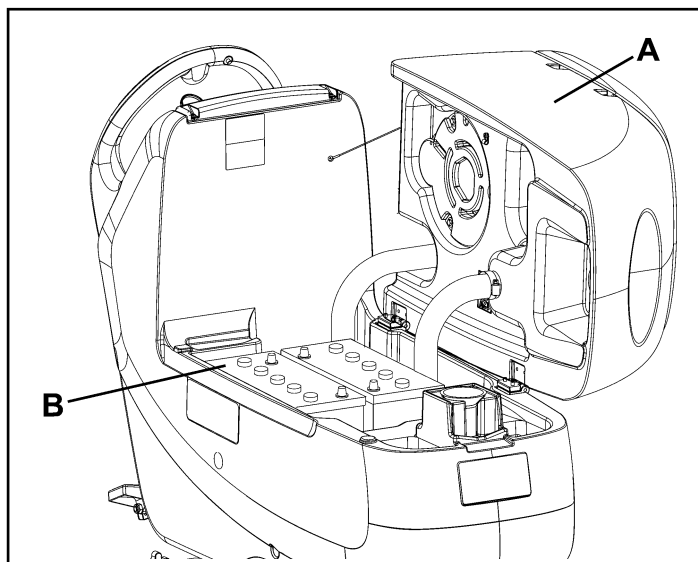

Figure 8
11. Open the cover (I) and check that the recovery water tank (J) is empty, otherwise empty it with the drain hose (K).
12. Carefully lift the tank (A, Fig. 8).
13. Install the batteries (B).